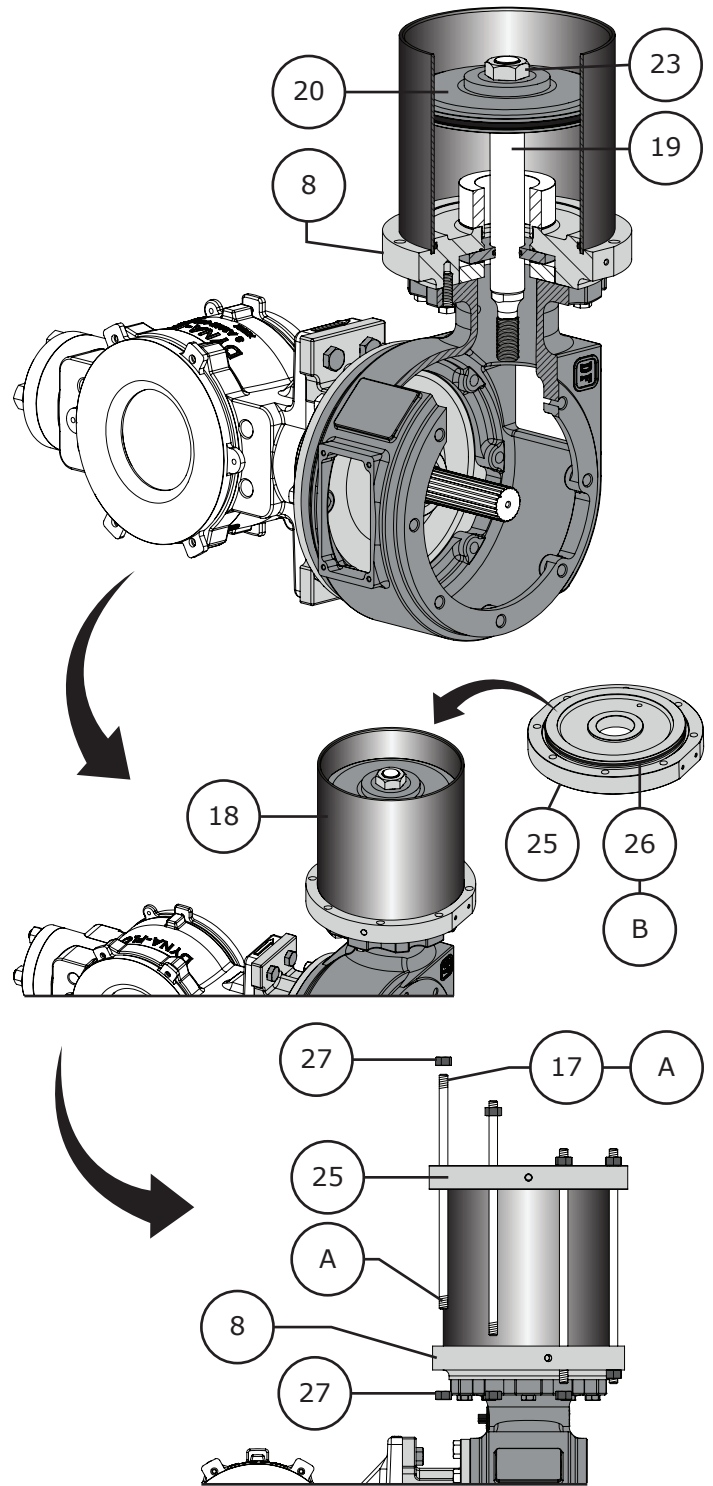

Figure 24 Piston Installation
- 5 Slide the piston assembly (Keys 19, 20, 21, 22 or 23, and 24) through the open end of the cylinder (Key 18) so that the end of the piston rod (Key 19) slides through the sliding seal (Key 10) and into the actuator housing (Key 6). Refer to Figure 24.
- 7 Place the cylinder cap (Key 25) over the cylinder (Key 18). Refer to Figure 24.
- 9 Slide the cylinder studs (Key 17) through both the cylinder cap (Key 25) and the cylinder base (Key 8). The hex nuts (Key 27) should be resting against the cylinder cap. Refer to Figure 24.